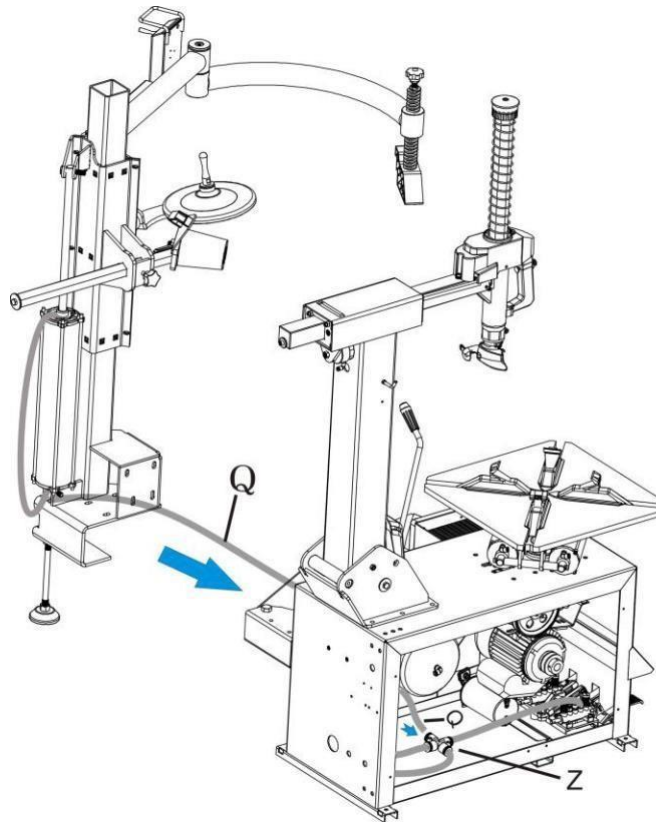

Fig.7
- ☐ As Fig. 7, Connect air hose Q to four way connection Z through the rear hole of the body.